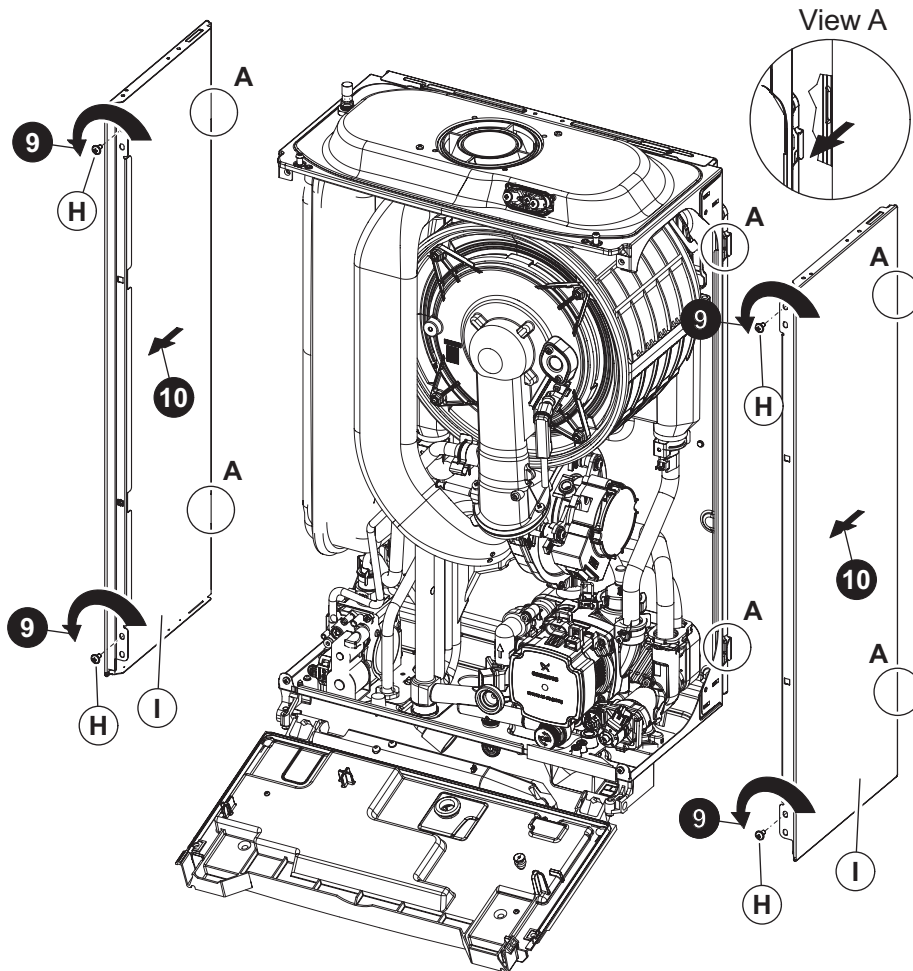

Fig. 7.4
Side panels - Fig. 7.4
- 9. Remove the screws 'H' securing the side panel 'I'. Lift the side panel and pull it forwards unhooking it from the rear panel (view 'A' in Fig. 7.4).